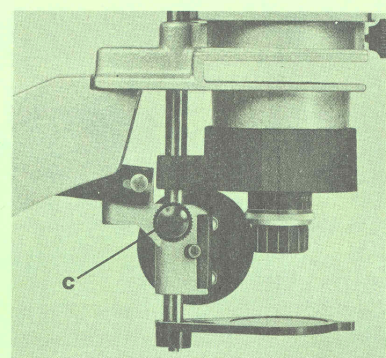

Fig 3
1. Rack the enlarger head down as far as it will go using the control knob (18), fixing it in place with the locking knob (16).
2. Rack manual focus control (3) down as far as it will go, locking it in this position with knob (C—fig. 3).
3. Press the front of the negative carrier down to enable a strip of negatives to be inserted with the emulsion (matt) side facing towards the baseboard. Release pressure on the carrier, switch on the amp using the on/off switch (21). Move the red swing filter (2) to one side, making certain the cap has been removed from the lens.
4. With the column set in its lowest position in the support flange (22), and with a sheet of paper on the baseboard to simulate the photographic paper, the lens should now focus correctly.
1. Loosen the locking screw (C—fig 3) then focus the lens by turning control knob (3) in an upwards or downwards movement.
2. Magnification can be increased or decreased by using knob (18) after first having loosened the locking knob (16).
3. To return from manual control to automatic focusing, the friction knob (3) should be turned until the lens support (5) is at its lowest position, where it should be locked into place with screw (C—fig 3). The enlarger can then be used in its normal mode, focusing automatically direct on the baseboard.
4. If one has a masking frame with a depth of less than 22mm, an alternative method of using the auto-focusing facility (i.e. to avoid the necessity of building-up the height of the masking frame) is as follows:—loosen column locking screw (23) and raise the column to the higher of the two notches, then retighten the locking screw. Loosen the head locking knob (16), then turn the magnification control (18) till the head support bracket (17) is in its lowest position. Then loosen screw (C—fig 3) and
adjust manual focusing control (3) until perfect focus is obtained. With control knob (3) left in this position the auto-focus feature will be retained; however it must be emphasised that screw (C—fig 3) must not be locked. FAILURE TO OBSERVE THIS WARNING CAN RESULT IN DAMAGE TO THE AUTO-FOCUS MECHANISM.